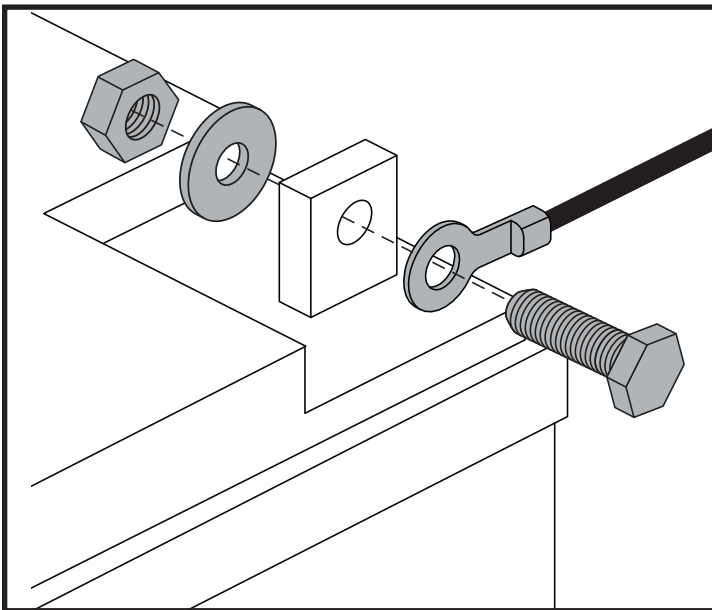

Figure 11. Battery Terminal Hardware - Configuration 1
4. Disconnect the battery cables from the battery terminals by sliding back the terminal boots and unscrewing the nut from the bolt. See figures 11 and 12.